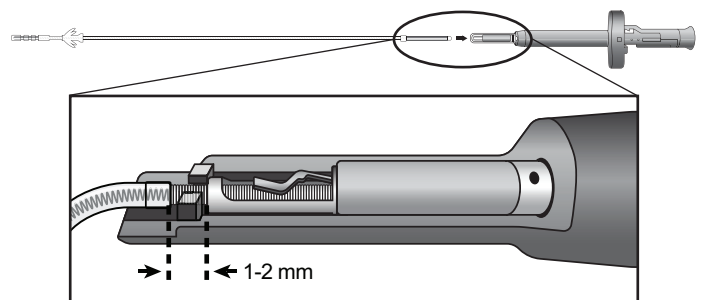

Figure 10: Insert Proximal End of the StimRouter Lead into the Pulse Generator and Receiver Attachment Tool.
1. Insert proximal end of the StimRouter Lead (StimRouter Receiver) into the Reed Sleeve of the Pulse Generator and Receiver Attachment Tool. See Figure 10. Take care not to put tension on the portion of the exposed lead at the incision site. The StimRouter Lead should be firmly seated inside the Reed Sleeve with only 1-2mm of StimRouter Lead outside the Reed Sleeve.